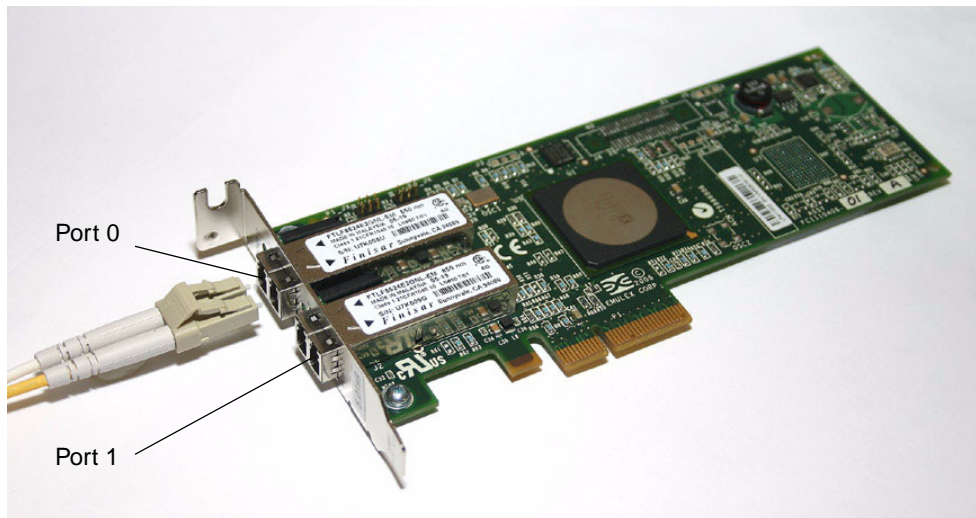

FIGURE 3 Attaching the Optical Cable
1. **Connect the fiber-optic cable to an LC connector on the HBA (see FIGURE 3).**